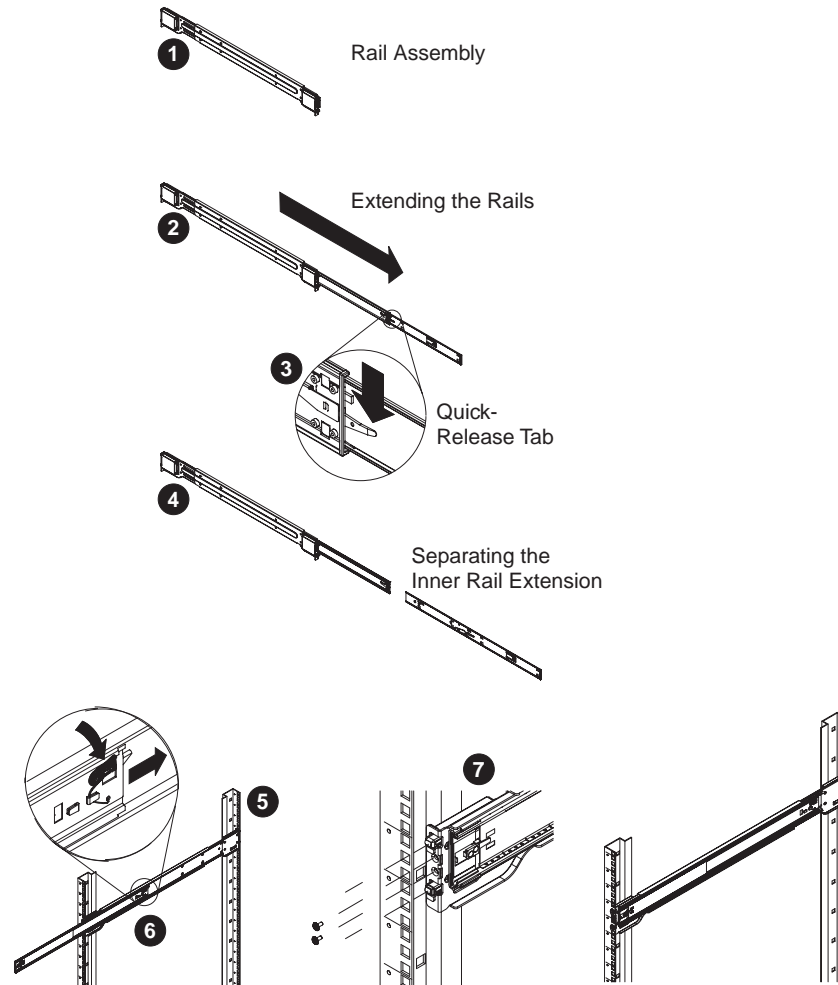

Figure 2-1 Separating and Installing the Rack Rails
1. Locate the rail assembly in the chassis packaging as shown in Figure 2-1.